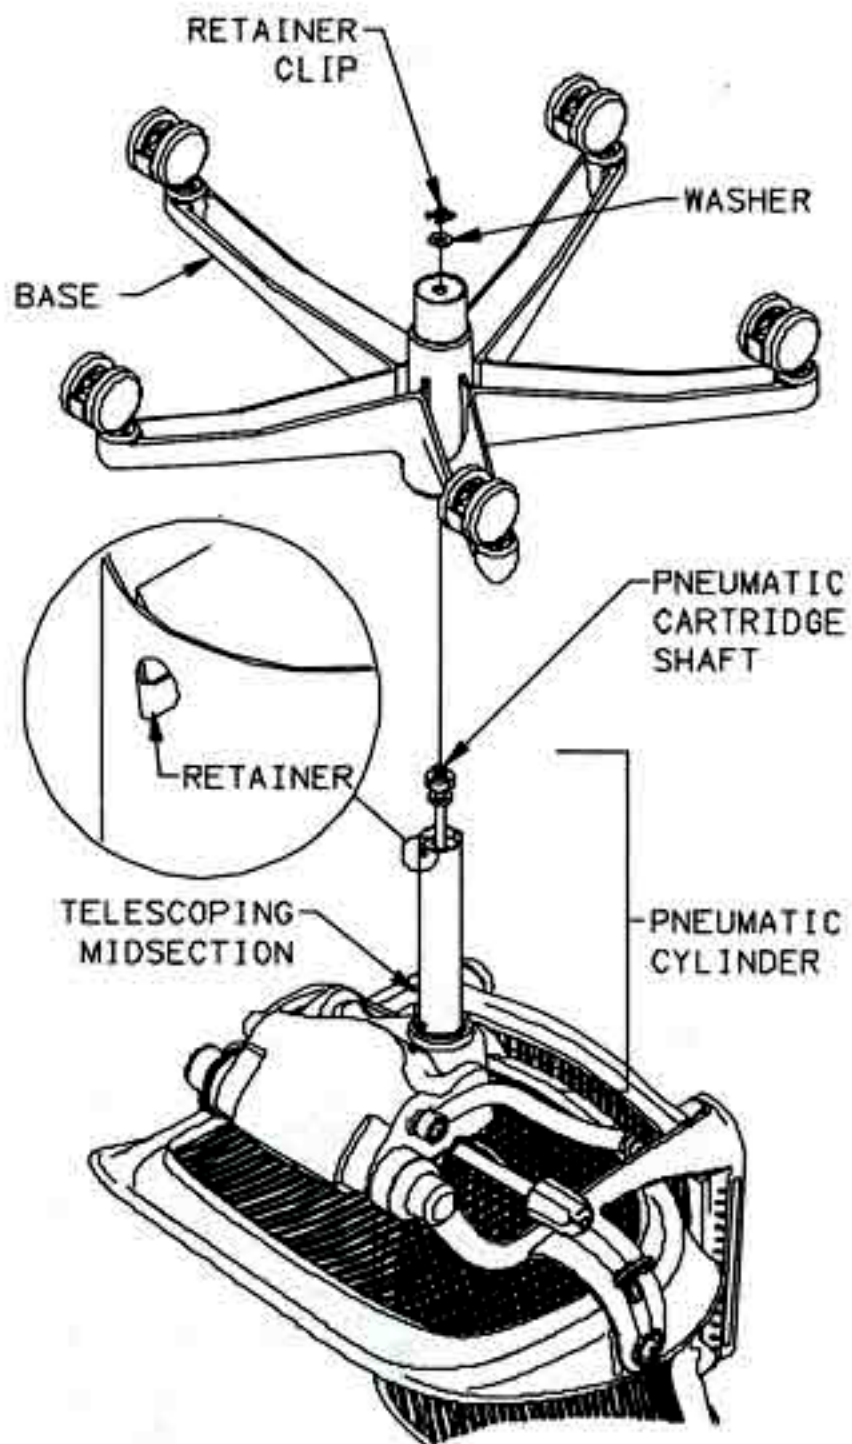

FIGURE 3
3. USING STRAIGHT HEAD SCREWDRIVER REMOVE RETAINER CLIP AND WASHER FROM SHAFT OF PNEUMATIC CARTRIDGE PROTRUDING FROM BASE AND SET ASIDE. SEE FIGURE 3.
-STANDARD CYLINDER: REMOVE BASE FROM PNEUMATIC CYLINDER AND SET ASIDE. SEE FIGURE 3.
-HIGH PERFORMANCE CYLINDER (TELESCOPING MIDSECTION): SLIDE BASE OFF AS FAR AS IT WILL GO. TURN BASE SLOWLY COUNTERCLOCKWISE MAINTAINING SLIGHT UPWARD TENSION WHILE HOLDING TELESCOPING MIDSECTION IN PLACE. WHEN A DEPRESSION IS FELT, CONTINUE TURNING WITH SLIGHT UPWARD PRESSURE. IF BASE WILL NOT TURN AFTER DEPRESSION IS FELT, TURN BASE IN OTHER DIRECTION. SEPARATE BASE FROM TELESCOPING MIDSECTION AND SET ASIDE. SEE FIGURE 3.
-STANDARD CYLINDER. INSTALL BASE OVER PNEUMATIC CYLINDER. SEE FIGURE 3.
-HIGH PERFORMANCE CYLINDER (TELESCOPING MIDSECTION): DEPRESS RETAINER ON TELESCOPING MIDSECTION WHILE INSTALLING BASE OVER PNEUMATIC CYLINDER. SEE FIGURE 3
10. INSTALL WASHER AND RETAINER CLIP TO SHAFT OF PNEUMATIC CARTRIDGE. SEE FIGURE 3.